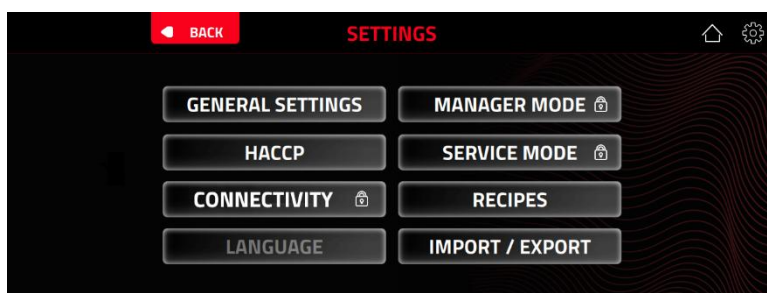

Fig. 6.1
3. SETTINGS button: The top right of most screens is a SETTINGS button with a gear icon. This button opens the Settings screen, providing access to 8 Settings buttons to reach more programmable screens. See Fig. 6.1.